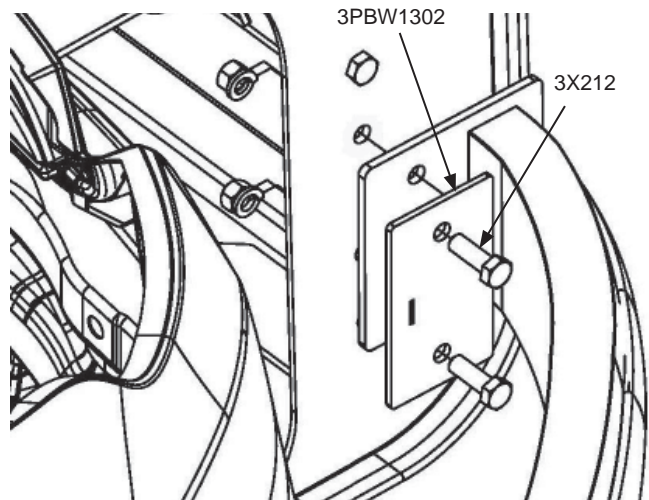

FIG. 7
- B. Align the PBW4716-00 wrap and the PBW1302 backer plate and fasten the parts together using the provided 3X212 bolts, and re-using the nuts and washers. (Fig. 7) . It may be necessary to have someone assist you with aligning the parts.